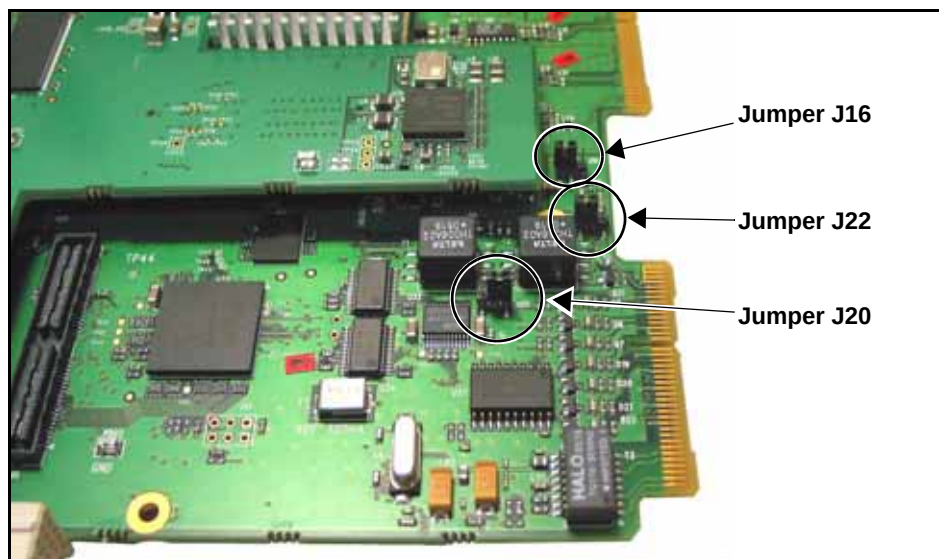

Figure 2-20. Jumpers for Reference Input and AES Audio-Over
- J16: Reference input termination (see Figure 2-20 for the location)
- J20 and J22: AES Audio-Over 1 and 2 (see Figure 2-20 for the location)